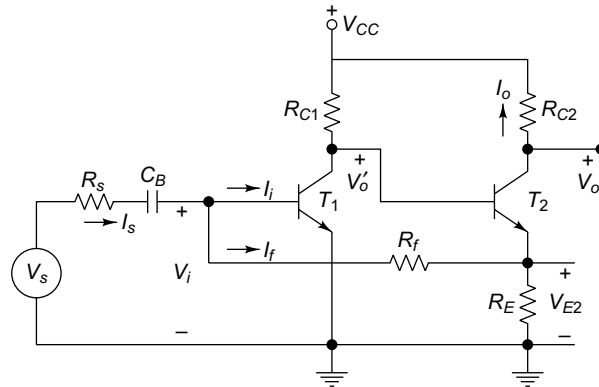

Fig. 2.43 Emitter to base feedback amplifier circuit
2.19 Figure 2.43 shows the transistor feedback amplifier circuit and it has the following parameters:
In Fig. 2.43, transistors T_1 and T_2 are connected in cascade. The feedback resistance R_f is connected between the emitter of T_2 and base of T_1 to provide a feedback path. The output voltage of transistor T_1 is the output voltage of first stage amplifier V_o and it is 180° out of phase from the input voltage V_i . The voltage across R_E is V_{E2} . The output voltage V_o is connected in series with the voltage V_{E2} . The topology of the feedback is current shunt or series shunt feedback.